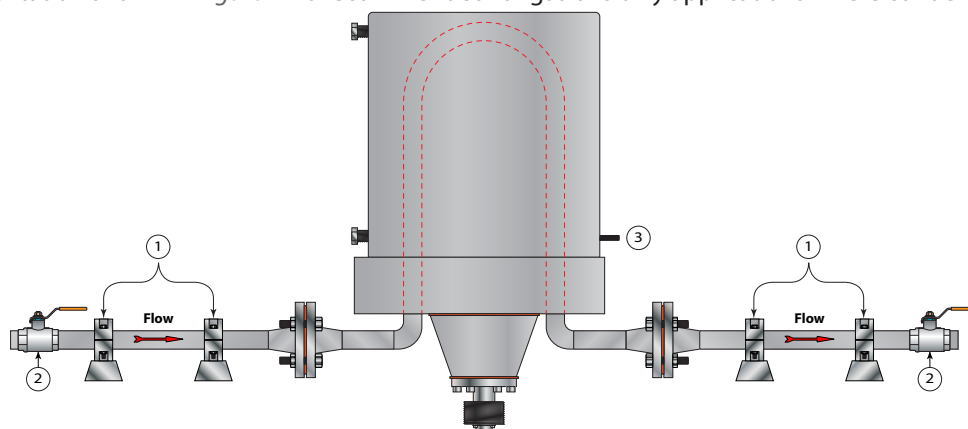
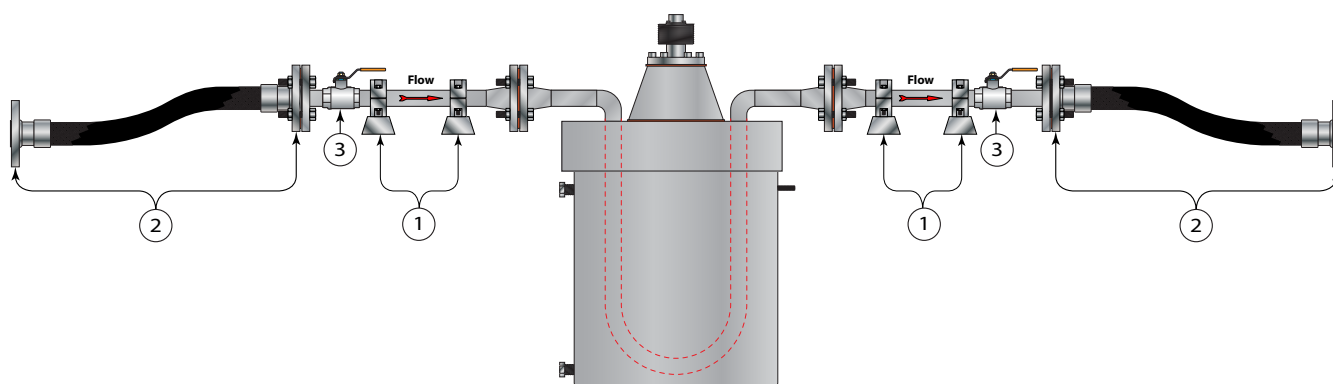
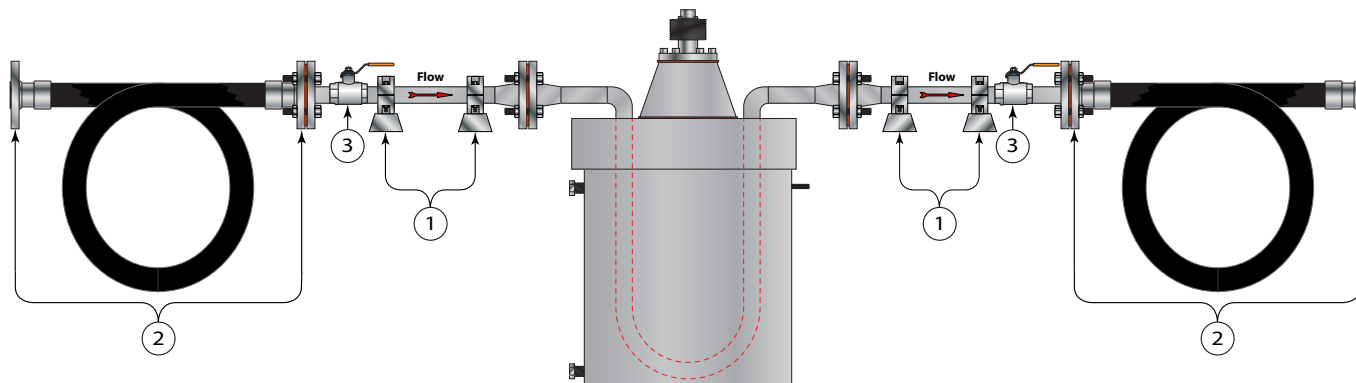
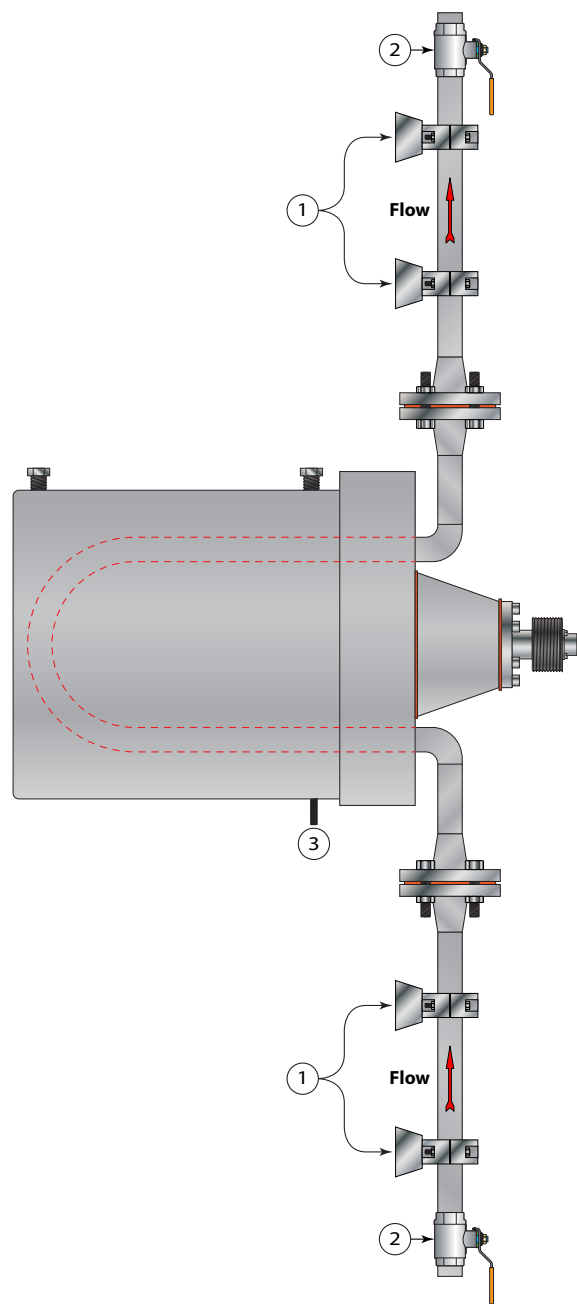

Figure 22: Tubes up (gases and slurries)
Figure 23: Flexible armored hoses
Figure 24: Flexible armored hose loops
Figure 25: Tubes to the side with flow going up (self-draining)
- Vertical piping installations should have the flow going up through the sensor. See Figure 25 on page 22.
- When using hose connections, use a short section of rigid pipe on each side of the sensor for proper support. The sensor should not hang from hose connections. See Figure 23 on page 21 and Figure 24 on page 21).
- Use of armored hoses as sensor vibration isolators may be required when a high amount of ambient vibration is present (see Figure 23 on page 21 and Figure 24 on page 21).
- Verify that the flow sensor is earthed/grounded at the earth connector located on the sensor side. An AWG #10 or larger protective ground must be connected to the side grounding terminal for the system to work correctly (see Figure 23 on page 21, Figure 22 on page 21 and Figure 25 on page 22).
- Install the sensor in a section of the piping where it always remains full, unless the application is designed to drain with no flow. See Figure 25 on page 22.
The mounting orientation shown in *Figure 22* is recommended for gas or slurry applications where condensate may exist.
The mounting orientation shown in *Figure 25* is recommended for self-draining configurations.